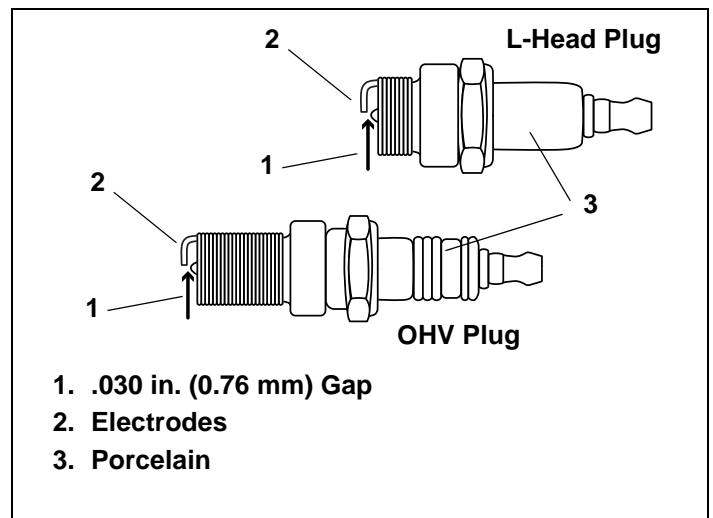

Figure 40. Resistor Spark Plug
4. Check electrode gap with wire feeler gauge and set gap to  $-.030$  in. (0.76 mm) if necessary. See Figure 40.